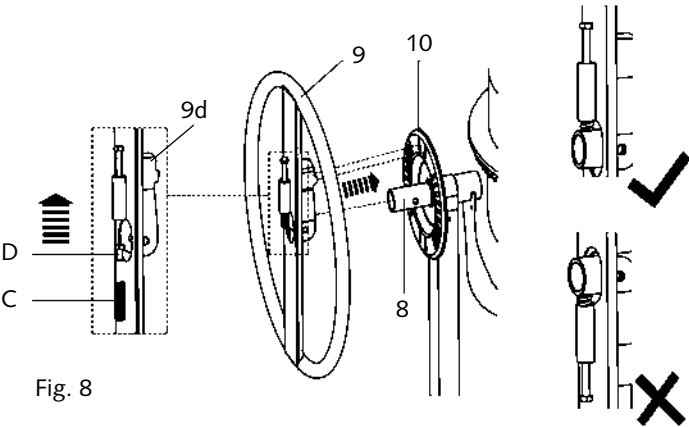

Fig. 8
- Align and place the control handle (9) onto the drum arm (8). Ensure the wing (9d) are engaged in the grooves on the handle control plate (10) (Fig. 8).